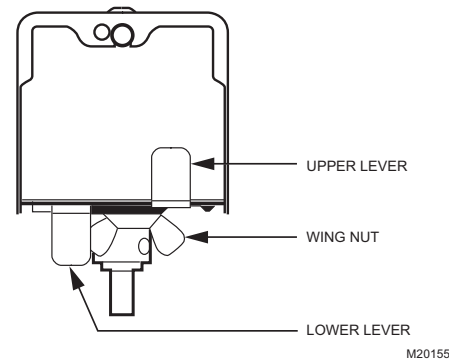

Fig. 2. Air flow adjustment.
1. When viewed on end, the lower lever is normally positioned to the extreme left and the upper lever is to the extreme right. See Fig. 2. This position provides complete shutoff when the damper is closed.
3. The lower lever is normally positioned to the left to allow the damper to fully open 90° when de-energized. See Fig. 2.
5. If the full opening and closing is not achieved, check that the lower adjustment lever is to the extreme left and the upper lever is to the extreme right. See Fig. 2.